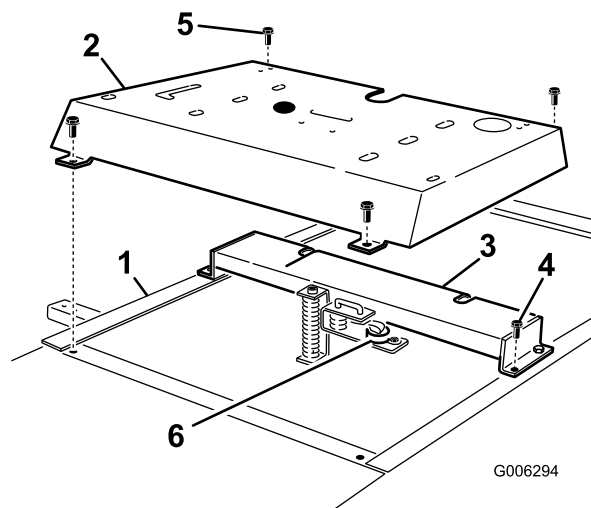

Figure 1
5. Remove the cap screws securing the seat support cover to the frame (Figure 1).
7. Disconnect the seat switch wire connector from the traction unit main wire harness connector (Figure 1).
8. Remove the cap screw and nut securing the seat switch to the seat support mounting bracket and remove the switch (Figure 1).
9. Remove the cap screws securing the seat support to the frame and remove the seat support (Figure 1).